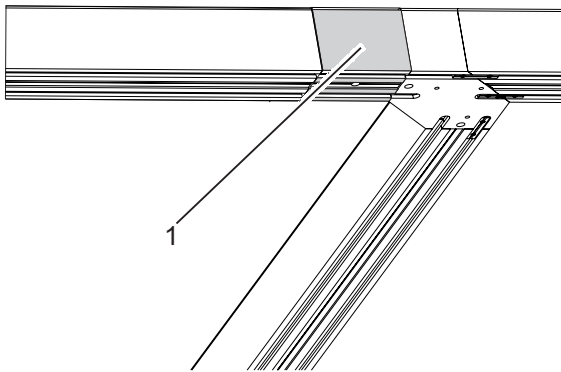

Fig. 6: Position of the revision piece directly in front of the stacking area
- ☞ The revision piece (Fig. 6/1) is part of the entire length of the tracks. Do not yet connect the revision piece as it will be removed again during the course of the assembly. The exact position of the revision piece is specified on the supplied system drawing.